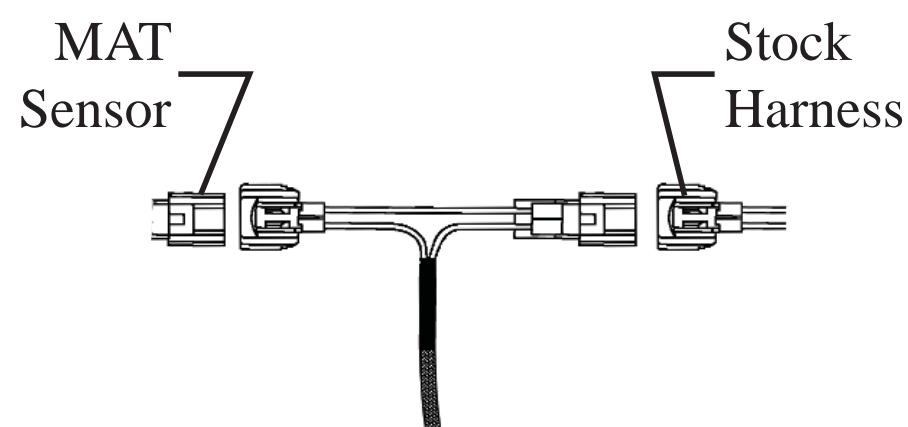

FIGURE 4 - "T" ASSEMBLY
1. Connect the MAT connectors in between the stock harness and the sensor as shown in Figure 4.